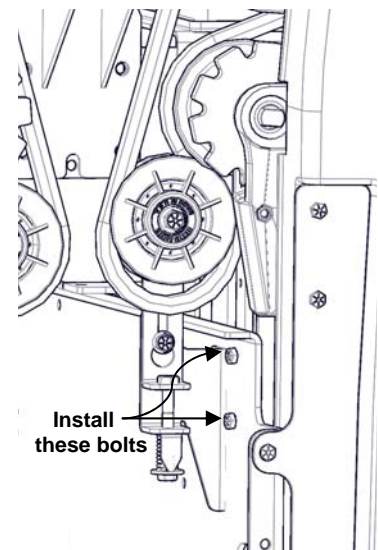

Figure 2-5, Lift Installation
3. Install the two bolts next to the Tensioning Bracket (see Figure 2-5).